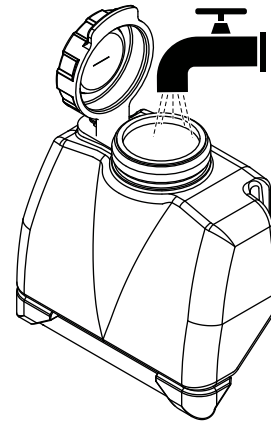

Figure 14. Fill and Leak Check
1. Check the water tank for leaks after filling up with water (Figure 14).